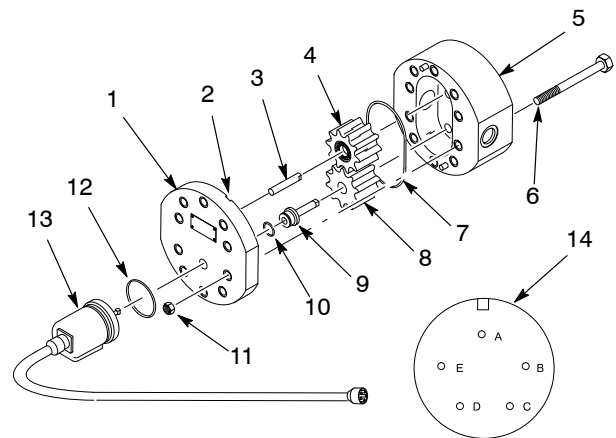

Figure 3 Typical Screw-in Shaft Flowmeter
1. See Figure 3. Unscrew the cable from the electro-optic encoder (13).
1. See Figure 3. Insert the case O-ring (7) into the groove on the cover (1).
2. Install the encoder shaft O-ring (10) onto the electro-optic encoder shaft.